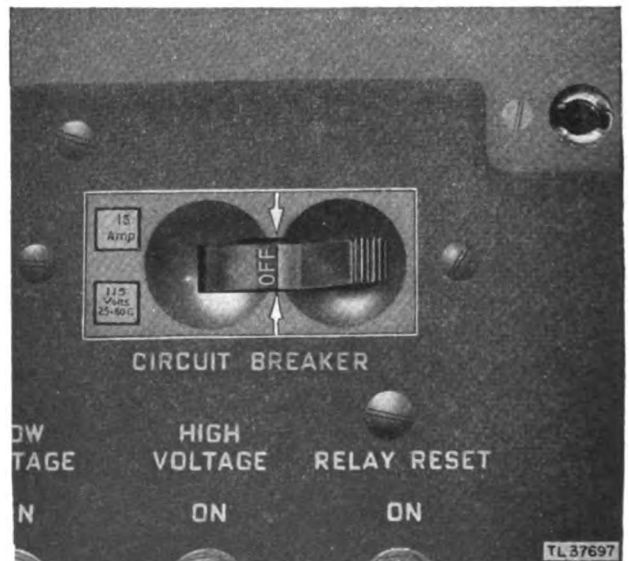
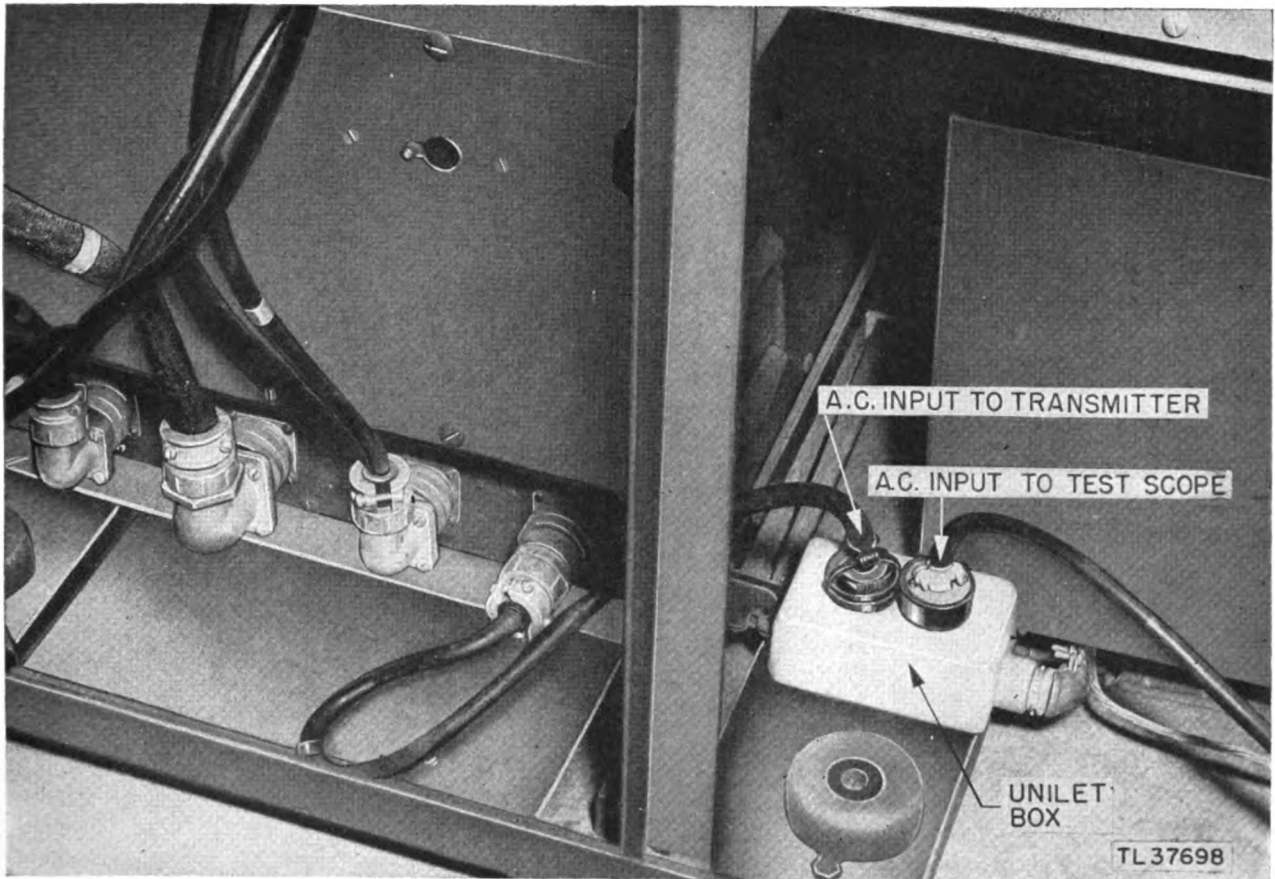

Figure 18. Circuit breaker on transmitter in OFF position.
Figure 19. Unilet outlet at back of rack.
(a) Be sure that all power is removed from the interconnector unit by throwing the main circuit breaker on the transmitter to the OFF position (fig. 18) and removing plug from a-c outlet (fig. 19).
(2) *Safety precautions.* (a) Be sure that all power is removed from the wavemeter unit by throwing the main circuit breaker on the transmitter to the OFF position (fig. 18), and remove the plug from the a-c outlet (fig. 19).